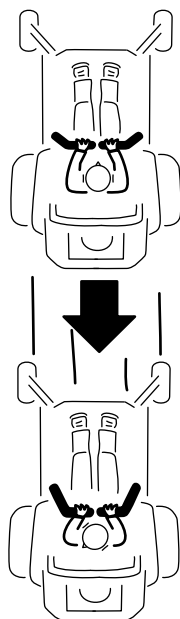

Figure 26
- 2. To go backward, slowly pull the motion-control levers rearward (Figure 26).